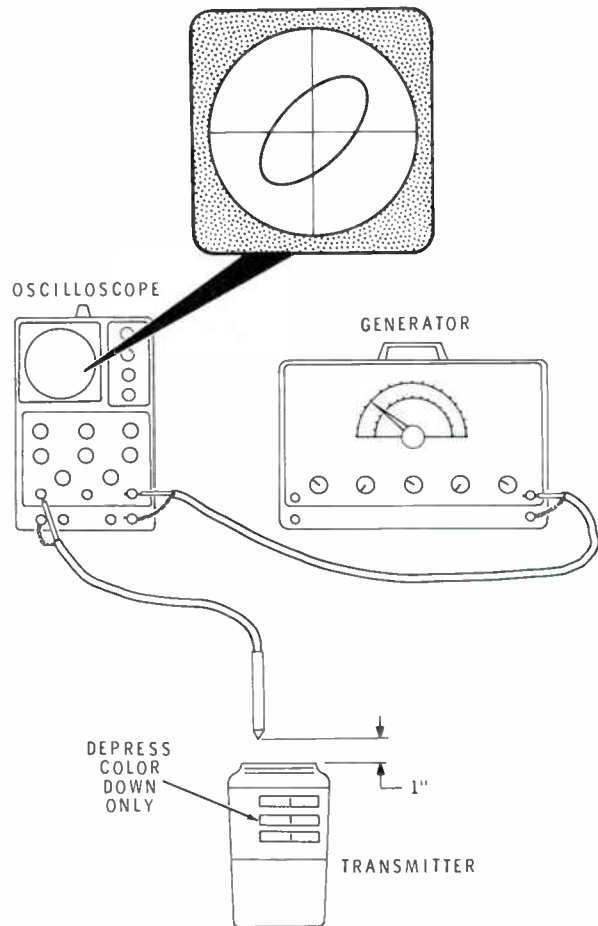

Figure 3
Refer to Figure 3 for the following steps.
- () Press the COLOR DOWN switch and adjust oscillator coil L1 for the Lissajous figure shown in Figure 3. **NOTE:** Make sure the circuit board is not touching any metal object or your hand.